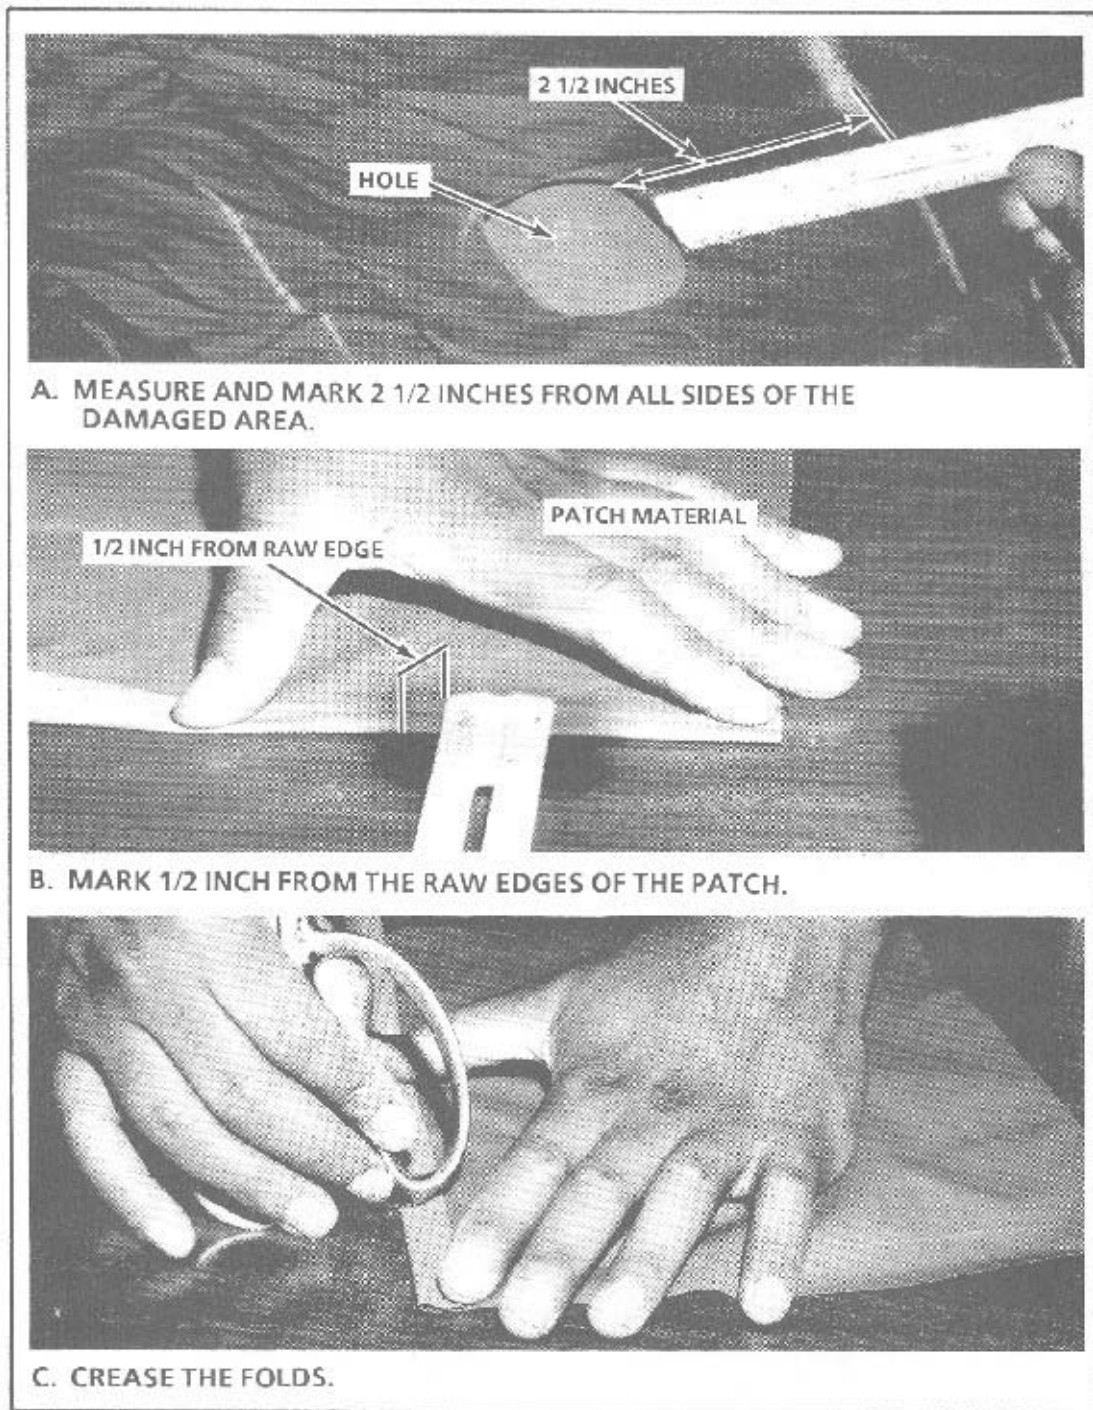

Figure 3-78
- e. Secure the stitch row with a 1-inch tack. (See Figure 3-78)
- a. Measure 1/2-inch down the sleeve from the shoulder seam and mark material with a chalk line. [See Figure 3-78 (A).] If an epaulet covers the shoulder seam, measure the width of the epaulet and use the center point of the epaulet as the shoulder seam.